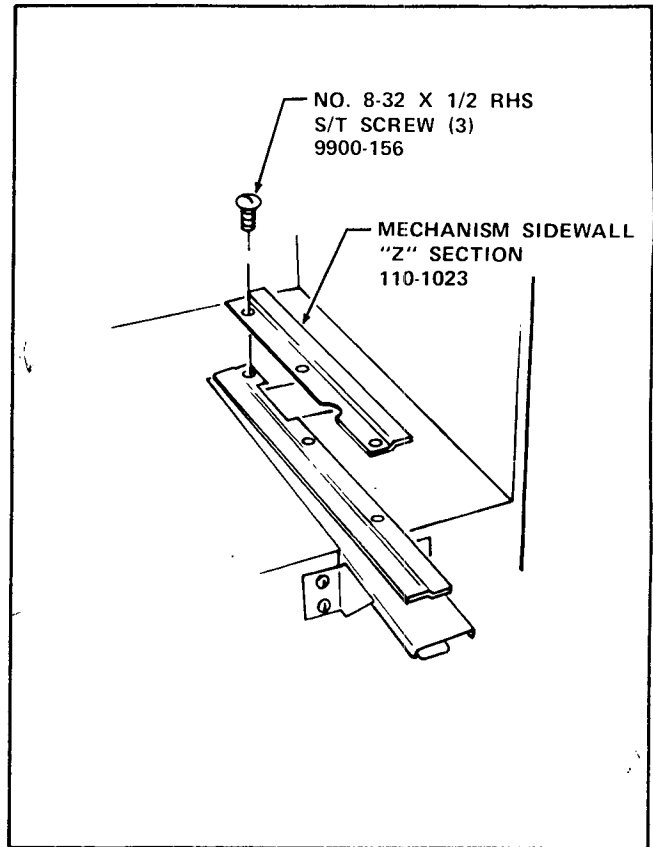

FIGURE 3-7
36. Remove three No.8-32 x 1/2 RHS Self Tapping Screws from the Mechanism Sidewall "Z" Section in the lower right corner of the Merchandiser and install the Mechanism Sidewall "Z" Section, Part Number 110-1023, included in the Kit, on top of the Mechanism Sidewall "Z" Section already in the Merchandiser. Attach using three No.8-32 x 1/2 RHS Self Tapping Screws, Part Number 9900-156, included in the Kit. See Figure 3-7.